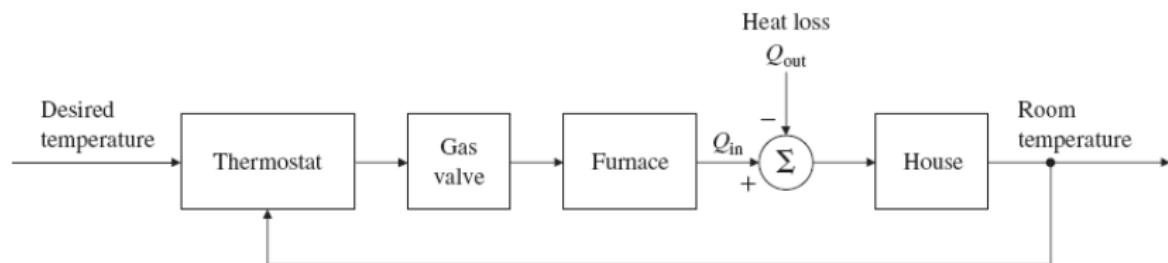

Figure 1.1 : Block diagram of a room temperature control system.
- ▶ Figure 1.1 shows the schematic diagram of a control system for controlling the room temperature.